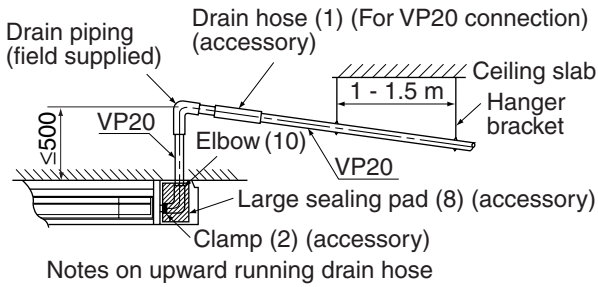

Fig. 26
7-1 Rig drain piping (Refer to Fig. 26)
- To keep the drain hose from sagging, space hanging wiring every 1 to 1.5m. (Refer to Fig. 26)
- Use only the included drain hose (1), (for rightward running drain hose) or elbow (10) (for upward running drain hose) and clamp (2).
- Fit the drain hose (1) or elbow (10) over the drain piping up to the neck and fasten tight with the metal clamp (2).
- Tighten the metal clamp (2) until the screw head is less than 4mm from the hose.